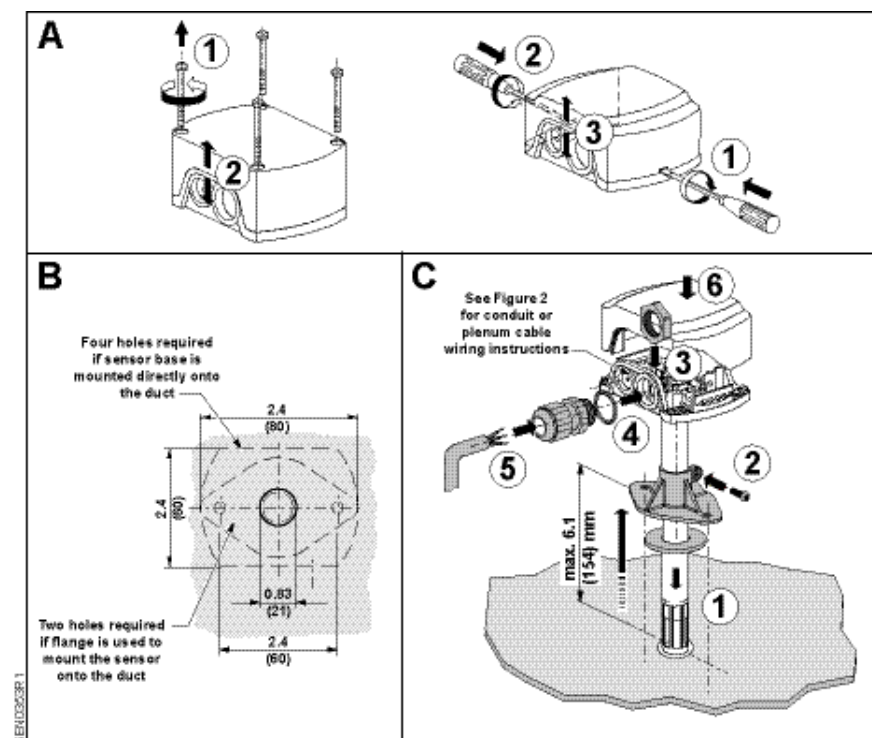

Figure 1. RH/T Duct Sensor Installation.
- a. Use the bracket as a template, and drill two holes with a No. 26 (0.147-inch) drill bit. See Figure 1(B).
- b. Attach the sensor mounting bracket and gasket to the duct using two No. 8 × 1-inch sheet metal screws. See Figure 1(C1).
- c. Insert the sensor in the duct through the bracket and tighten the mounting screw to set the insertion depth. See Figure 1(C2).
- b. Use the base as a template, and drill four holes with a No. 26 (0.147-inch) drill bit. See Figure 1(B).
3. Attach conduit or plenum wire to the sensor base. See Figures 1 and 2.
6. Reinstall the sensor cover. See Figure 1(C6).